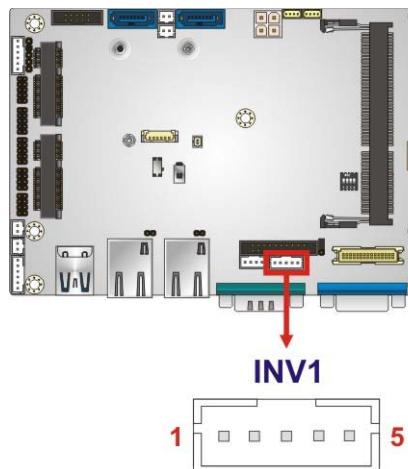

Figure 3-14: LVDS Backlight Control Connector Location
**CN Location:** See Figure 3-14